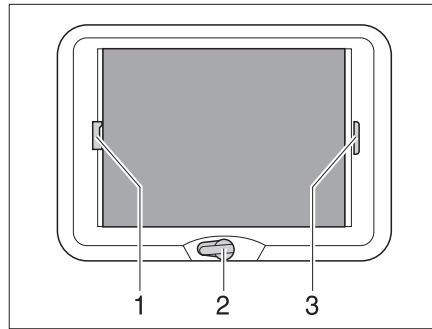

Fig. 95 Wind-up skylight
- Opening:* ■ Rotate the hand crank (Fig. 95,2) until a resistance can be felt (max. opening angle 70°).
- Closing:* ■ Pull the handle of the Roman shade (Fig. 95,3) and release in the desired position. The Roman shade will stay in that position.
- Closing:* ■ Pull insect screen at the handle (Fig. 95,1) to the opposite handle of the Roman shade (Fig. 95,3) and allow to engage.
- Opening:* ■ Press the handle of the insect screen (Fig. 95,1) at the back upwards and detach the insect screen from the Roman shade (Fig. 95,3).